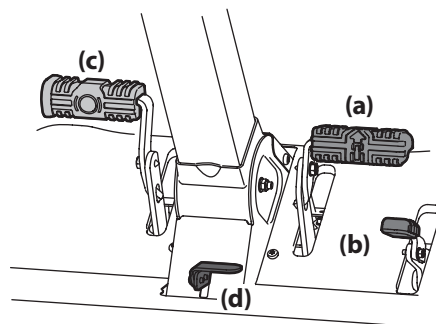

Figure 3-3
- To travel FORWARD, slowly press the forward drive pedal (a) forward until the desired speed is achieved. See Figure 3-3.
- To travel in reverse, check that the area behind is clear then slowly push down on the reverse drive pedal with the ball of your foot (NOT your heel) until the desired speed is achieved. See Figure 3-3.